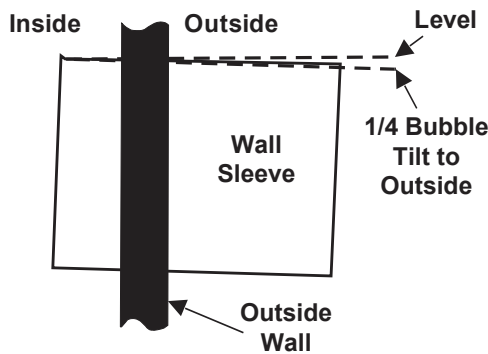

Fig 6. Proper Sleeve Tilt
- A slight downward pitch from the indoor side to the out-door side as shown below(Fig 6).